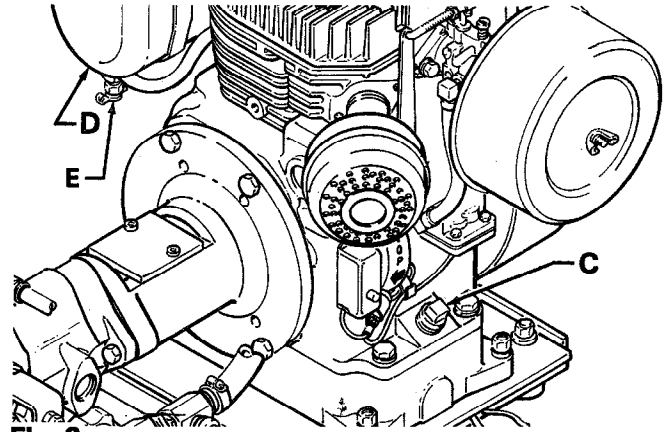
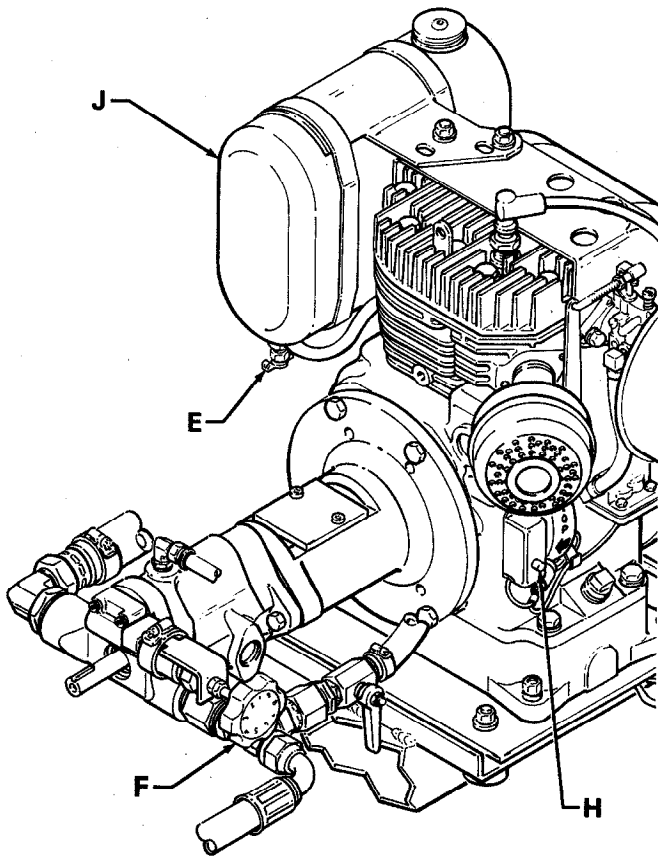

Fig 2
Fig 6
Check the engine oil. Unscrew the oil fill plug (C); the dipstick is attached. See Fig 2. Without threading the plug into place, check the oil level. The oil should be up to the top mark on the dipstick. Add fresh oil if necessary.
Fill the fuel tank (D) with clean, fresh gasoline. The tank holds approximately 1.5 gallons (5.7 liters). Refer to Fig 2. Use only reputable, well-known brands of *unleaded Regular Grade* gasoline. The minimum octane requirements are 86 octane in the U.S.A., and 96 octane elsewhere. At the maximum operating speed of 2800 RPM, the gasoline consumption is about 1.3 gallons/hour (4.9 liters/hour).
Always shut off the engine and let it cool before refilling the fuel tank. Close the fuel cock (E). Refer to Fig 2. Be sure that the air vent in the tank fill cap (J) is not plugged so that fuel can flow to the carburetor. Refer to Fig 6, page 6. Then fill the tank.
Turn the pressure control knob (F) to adjust the fluid pressure. See Fig 6. Turn the knob clockwise to *increase the pressure* and counterclockwise to *decrease the pressure*. Always use the lowest pressure necessary to completely atomize the material. Check the spray pattern. The tip size and angle determines the pattern width and flow rate. *Don't try to get more coverage by increasing the pressure; use a larger tip instead.* See the separate instruction manual 306-997 for the correct method of airless spraying.